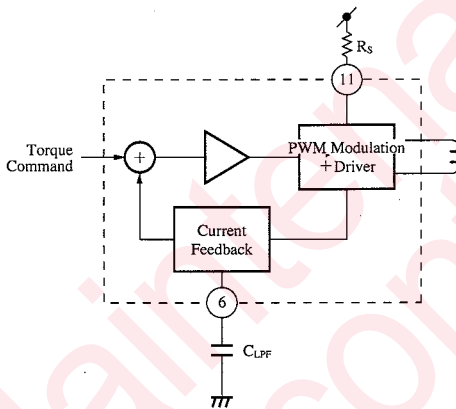

Fig.5 Current Feedback Loop
- The crest value of the saw-tooth wave is determined by an input signal frequency to the Pin②③, IC sink/source current, and capacitor of the Pin④.
- Assuming that the input signal frequency to the Pin②③ is 44.1kHz and the capacitor of the Pin④ is 1,500pF, the crest value of the saw-tooth wave crest value is about 1V.
(4) Current feedback loop
- Fig.5 shows a current feedback loop incorporated to obtain a stable CLV loop against disturbances such as supply voltage change and load change.
- The external capacitor  $C_{LPF}$  of the Pin⑥ is for phase compensation of this feedback loop.